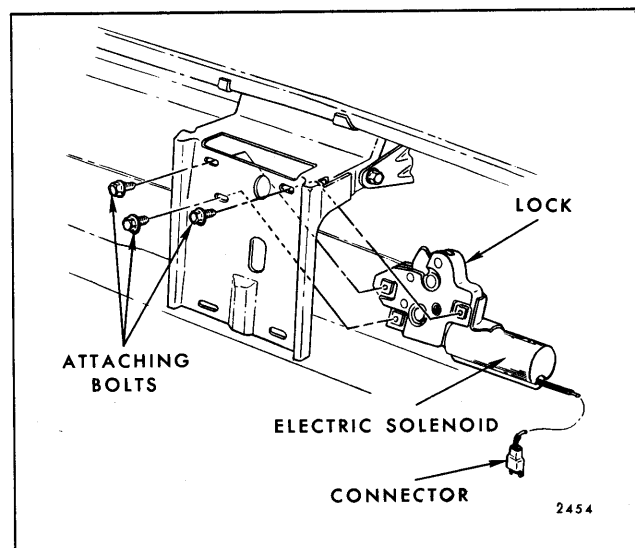

Fig. 8-25—Rear Compartment Electric Release Unit
2. Remove bolts securing rear compartment lid lock assembly to rear compartment lid anchor plate (Fig. 8-25).